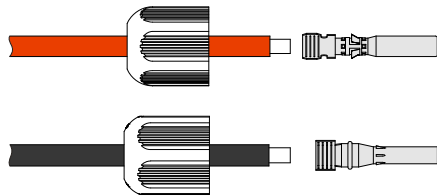

Figure3-36 Crimp metal terminals
- Step 2 Loosen the lock nuts of the positive and negative connectors, lead the positive and negative cables go through the corresponding lock nuts, and use a crimping tool to press the positive cable and negative cable to the positive and negative metal terminals respectively, as shown in Figure 3-36.